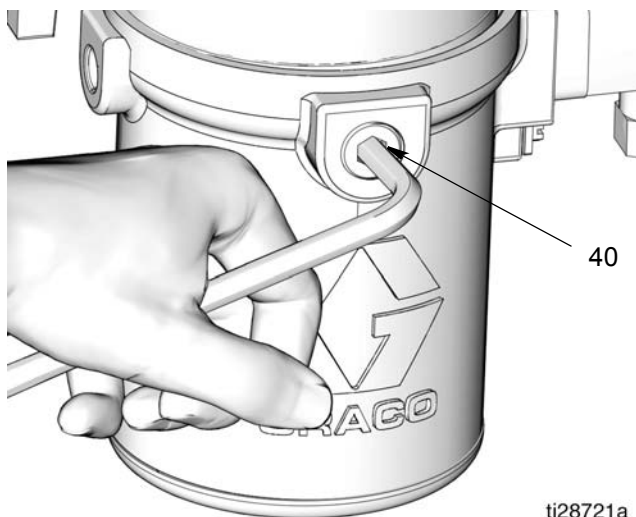

FIG. 11
5. Use a hex wrench to slowly loosen and remove drain plug (40) from the pump base and drain oil from the pump (FIG. 11).